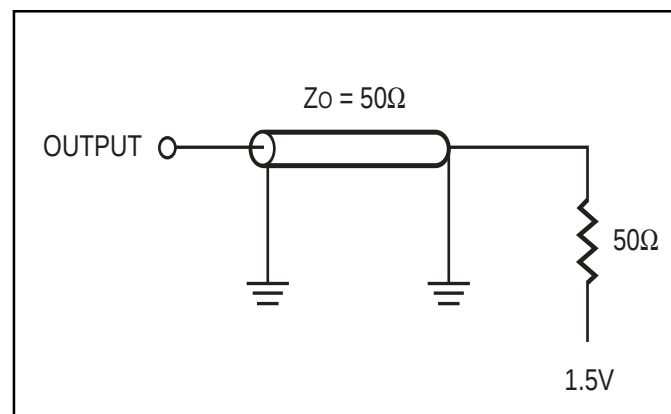

Figure 1
| Output Load                                 | See Figures 1 and 2 |
2. Tested with load in Figure 1,2,3,4.